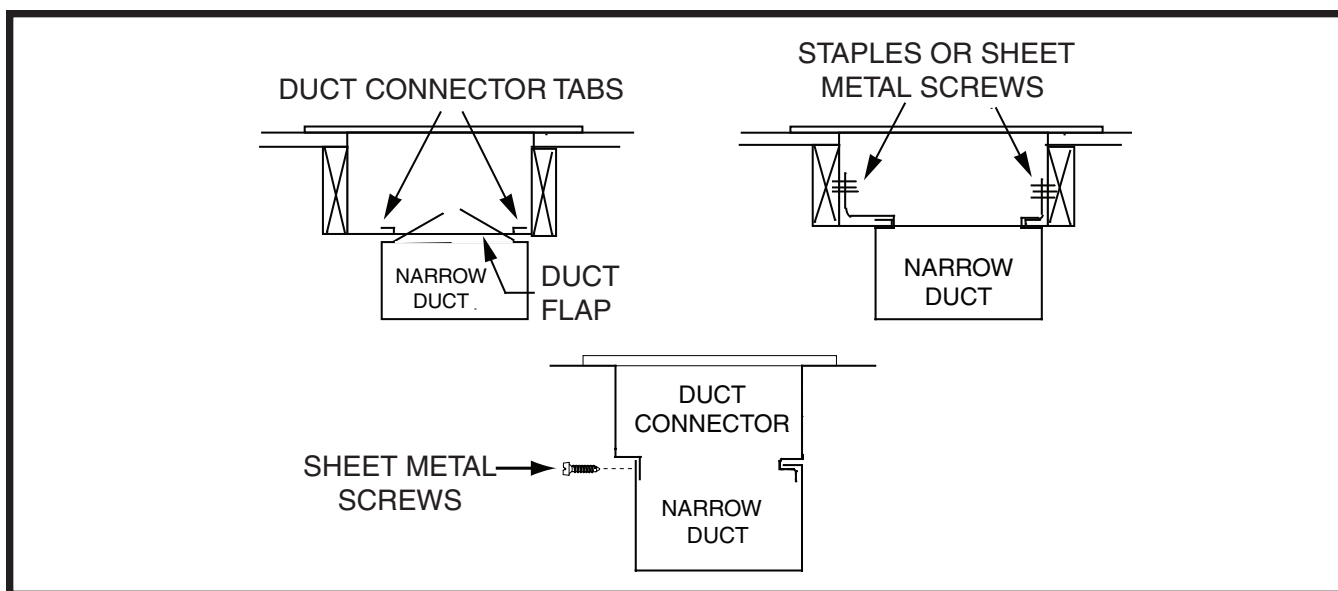

Figure 11. Narrow Ducts
4. Bend the tabs on the bottom of the duct connector upwards and as tight as possible against the supply air duct. See Figure 11 \(page 9\).